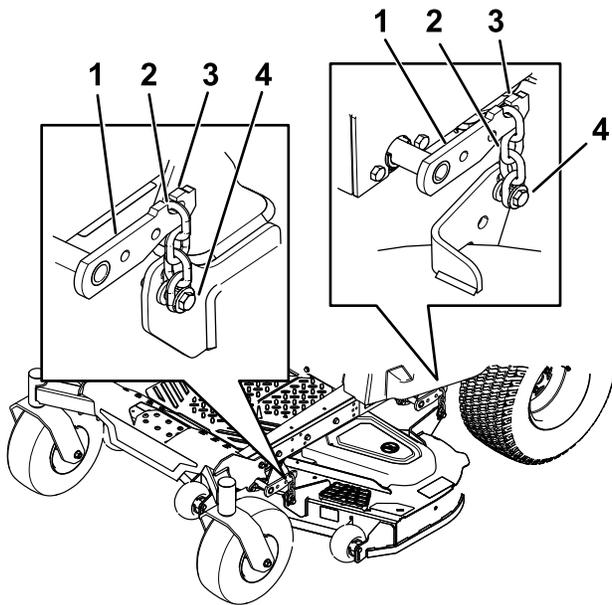

Figure 66
5. Loosen the adjustment bolts on all 4 corners so that the deck is sitting securely on all 4 blocks (Figure 66).
6. Ensure that there is tension on all 4 chains (Figure 66).
7. Tighten the 4 adjustment bolts (Figure 66).